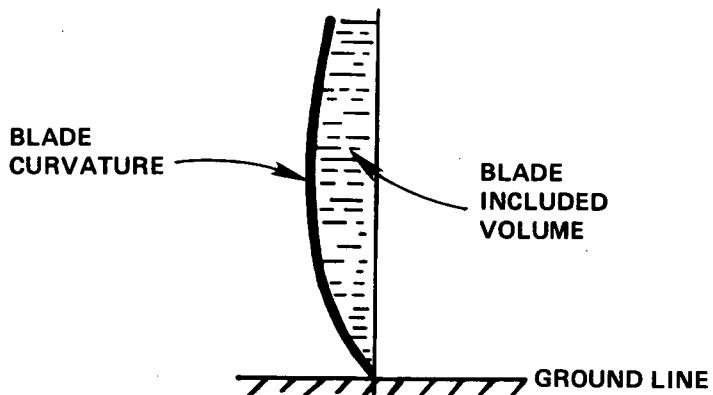

FIG. 1—BLADE INCLUDED VOLUME
3.3 This recommended practice assumes the blade face to be flat and vertical, and does not consider the blade included volume (Fig. 1).